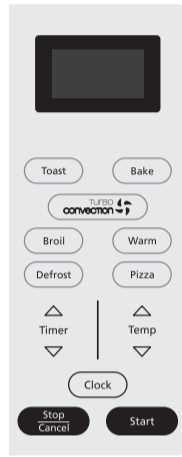

FIGURE 2
1. **Function Buttons** – (See Figure 2)